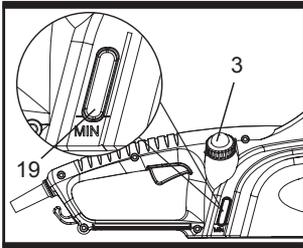

Fig. 13
The oil tank holds 100ml of oil, enough to lubricate the chain for 20-25 minutes of cutting. Check oil level gauge (19) prior to starting and regularly during operation. Refill oil when oil level is lower than "MIN" marking.(See Fig.13)